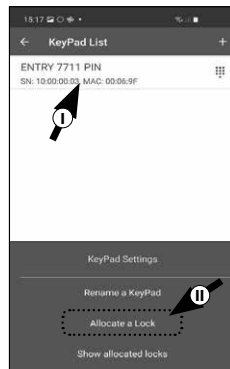

Fig. 19
⑤ Tap the keypad entry that is to be assigned to a cylinder (I) (Fig. 19).
⑥ Then tap on "Allocate a Lock" (II) (Fig. 19).